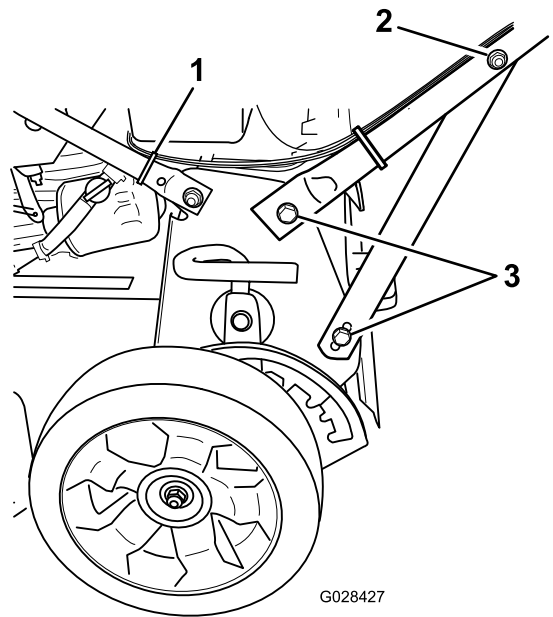

Figure 4
2. Nut on handle support bracket (2)
3. Bolt (4)
5. Install a cable tie to secure the cables to the lower handle in the location shown in Figure 4 and trim off the excess material from the tie.
4. Tighten the fasteners that support the handle on both sides of the machine as shown in Figure 4.